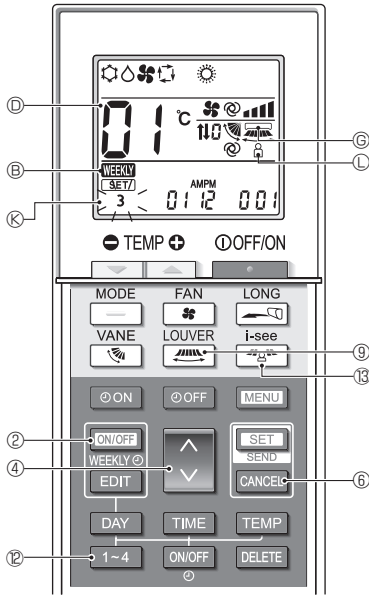
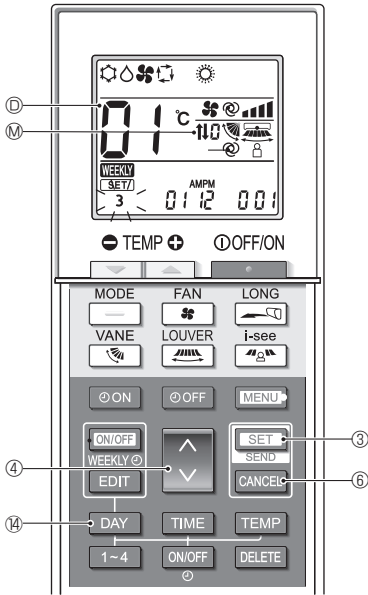

Fig. 6-4
Fig. 6-5
6.5. Separate setting mode 2 (Fig. 6-4, Fig. 6-5)
* If the setting is incorrect, press the **CANCEL** button ⑥ and repeat the procedure from step 1.
6.6. Completing the setting (Fig. 6-5)